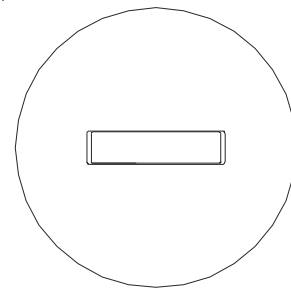

Fig. 10
10. Break the protective label in the center of the rough-in cover to expose a slot. See Fig. 10